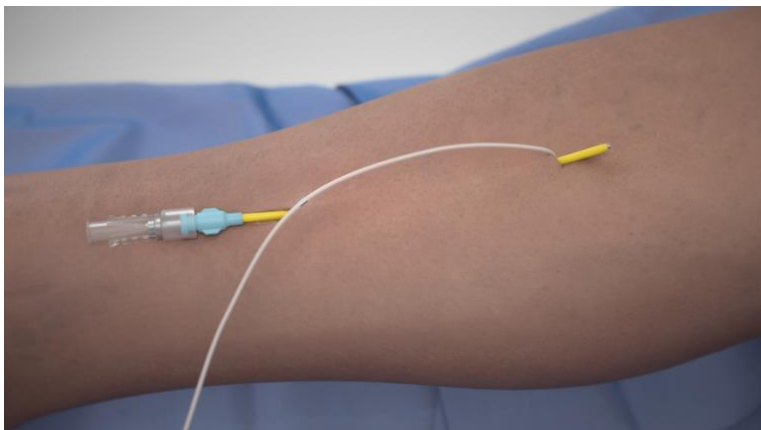

Figure 1
2. With the stylet in place, advance the introducer from the second incision receiver pocket to the first incision electrode array entry site. (Figure 1)